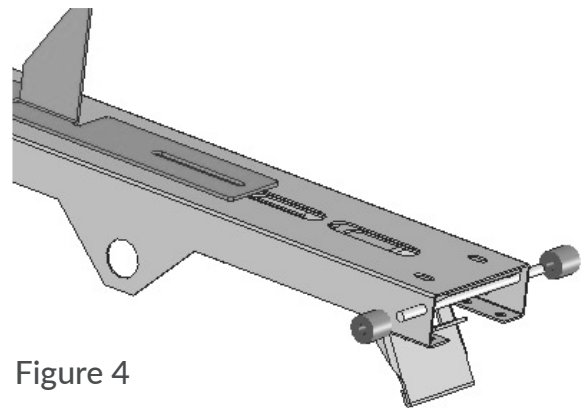

Figure 4
3. Locate two Axles and four Wheels in the 02A074 Hardware Bag and insert the Axles through the holes in the end of the Channel on the Rear Bow and fit the Wheels onto both ends. Repeat for the Channel on the Front Bow (See Figure 4).